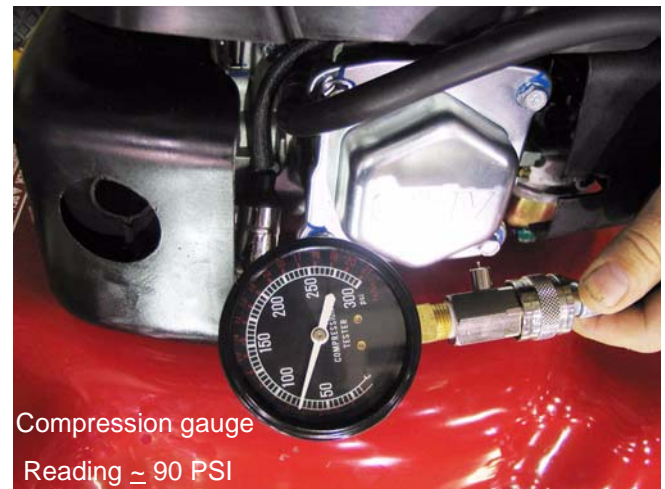

Figure 5.37
- 5.37. Confirm that the gauge is "zeroed", then hold the safety bail and pull the starter rope repeatedly, until the needle on the gauge has risen as far as it is going to. See Figure 5.37.